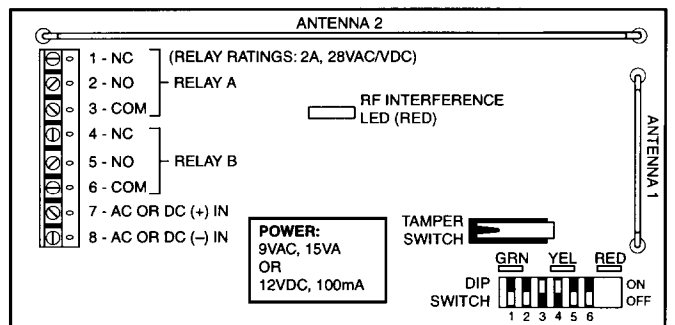

Figure 2. Connection Diagram
The 5800RL can be powered from either an AC or DC external power source connected to terminals 7 and 8 (see Figure 2). Power source ratings are as follows:
4. Connect relay and power wiring to the 5800RL's terminals. Refer Figure 2.